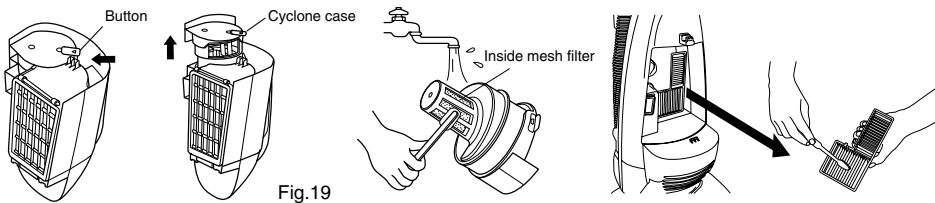

Fig.19
*Filters in dust case (Washable) (Maintenance once a month) (Fig. 19)
*Black filter (Washable) (Fig. 19)